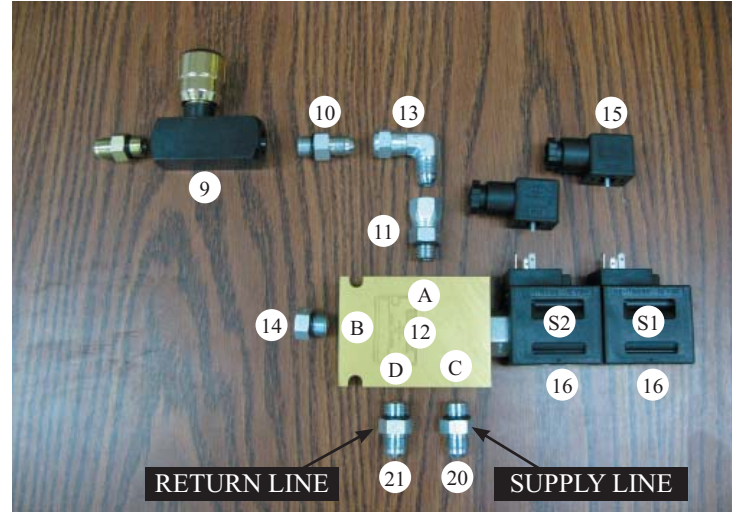

Figure 3.4 -Hydraulic Valve & fittings
Refer to *Figures 3.4 & 3.5* for this step.
1. Assemble the needle valve assembly as per *figure 3.4*. The parts are as follows; (#14)-6MBP in port B, (#11)-6MB-6FJX in port A, (#13)-6MJ-6FJX90 (#10)-6MB-6MJ (#9)-6ORB Needle Valve (#15)-Solenoid wiring connector (#16)-Valve Solenoids (#12) Hydraulic Valve.